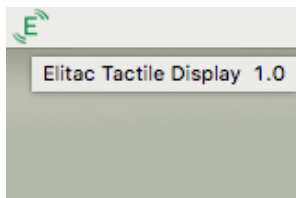

Figure 2 - Elitac HIDCom Icon in system tray showing connection status
- c. The connection status is shown when hovering over it. Figure 2
- b. The connection status is shown when hovering over it. Figure 2